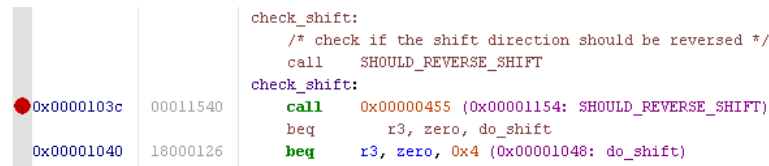

Figure 26. Setting a simple instruction breakpoint in the **Disassembly** window.
3. Click on the gray bar to the left of the address `0000103c` (address value of the `check_shift` label) to set an instruction breakpoint at this location. See Figure 26 for an illustration of what a breakpoint in the Disassembly window looks like. Clicking the same location again will remove the breakpoint.